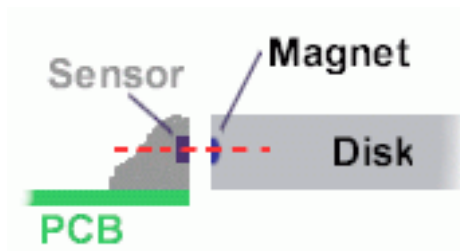

Figure 5 Ensure correct alignment of magnet disk and sensor.
- Take care that the magnets in the disk are approximately in the same height as the sensor, see figure 5 on page 8.